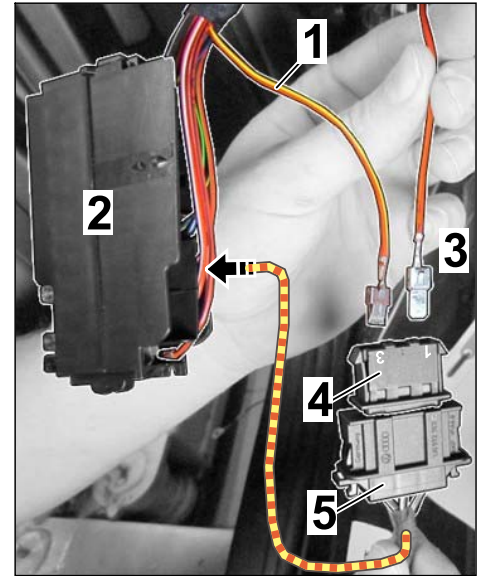

Figure 33
2.6.4 Assign plug socket (3-pin) as follows (⇒ *Figure 33*):
- 3 (2)** – Line RD/YE; 1.0² (wire harness for engine noise control unit/pulse sender)
- 4 (3)** – Plug socket (3-pin)